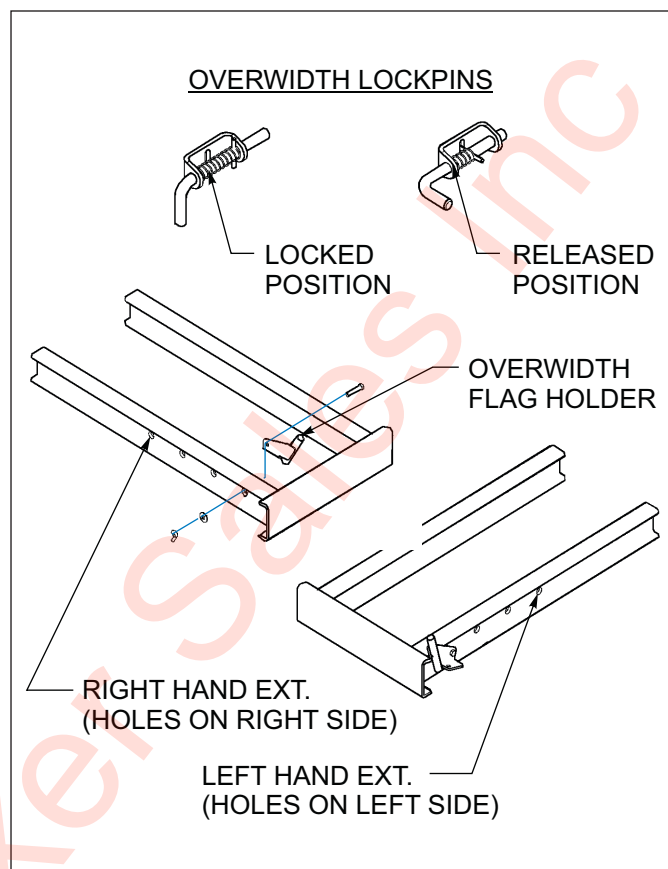

Figure 3-7: Pull Out Extensions
1. Pull out extensions are adjustable in six inch increments. Extension lock pin can be held in released position when pulled back and rotated one quarter turn into catch (*See Figure 3-7.*)